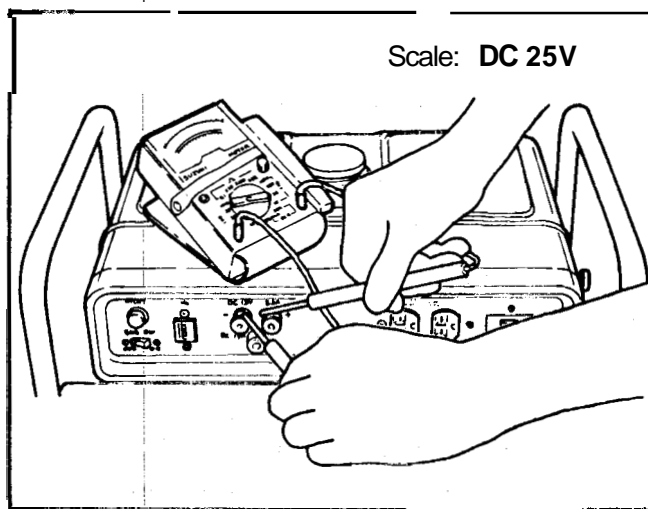

Figure 136
5. Connect the probes to the DC terminals on the generator, plus to plus and minus to minus, (red to red and black to black). The unloaded DC voltage should be approximately 14 VDC. At full load (8.3 amps) the voltage may drop as low as 11 volts. See Figure 136.